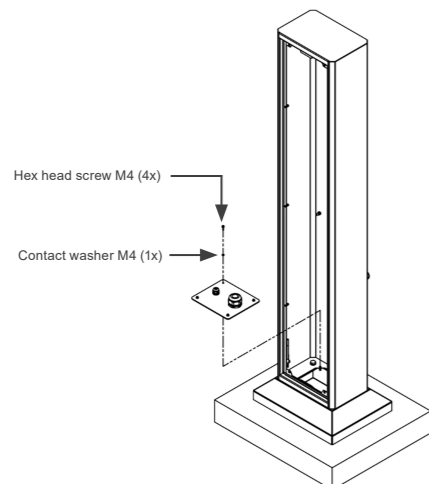

Figure 4.8: Grounding point of the WEMOB totem flange
After securing the totem to the product base, ground the flange using one (01) M4 contact washer, supplied with the product, in any of the flange's mounting holes, as shown in Figure 4.8. The recommended tightening torque is 3 Nm.